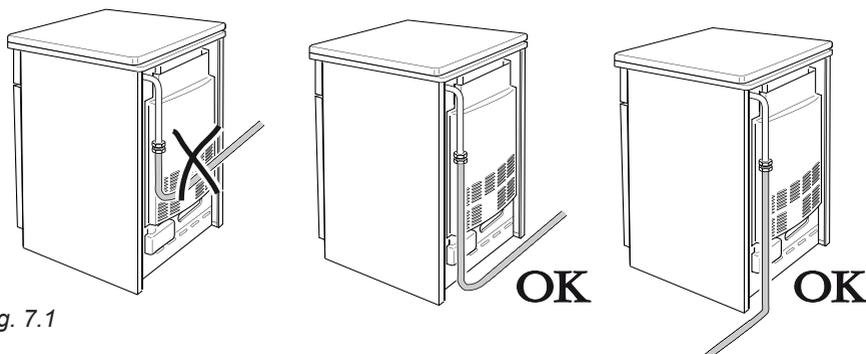

Fig. 7.1
- The connection must be executed to the rear of appliance (fig. 7.1); the pipe does not cross the cooker.